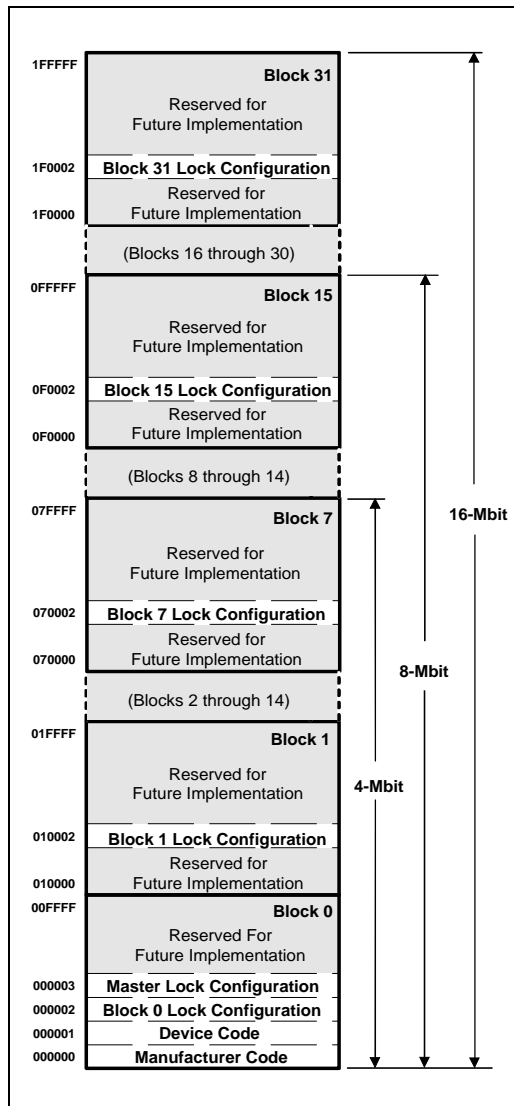

Figure 6. Device Identifier Code Memory Map
The read identifier codes operation outputs the manufacturer code, device code, block lock configuration codes for each block, and master lock configuration code (see Figure 6). Using the manufacturer and device codes, the system software can automatically match the device with its proper algorithms. The block lock and master lock configuration codes identify locked and unlocked blocks and master lock-bit setting.
IA = Identifier Code Address: see Figure 6.
1. X selects the specific block lock configuration code to be read. See Figure 6 for the *Device Identifier Code Memory Map*.